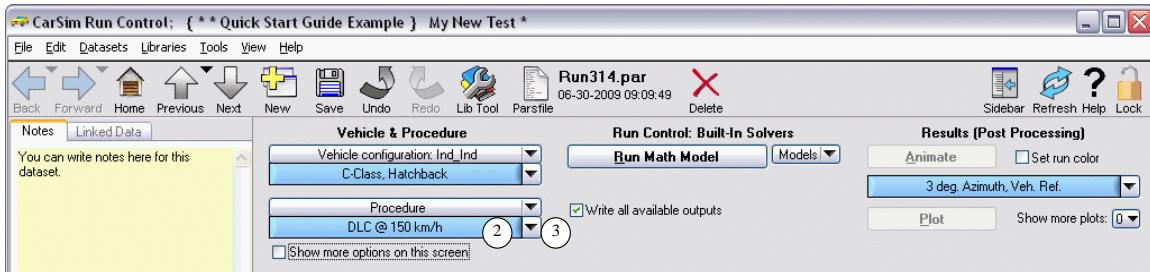
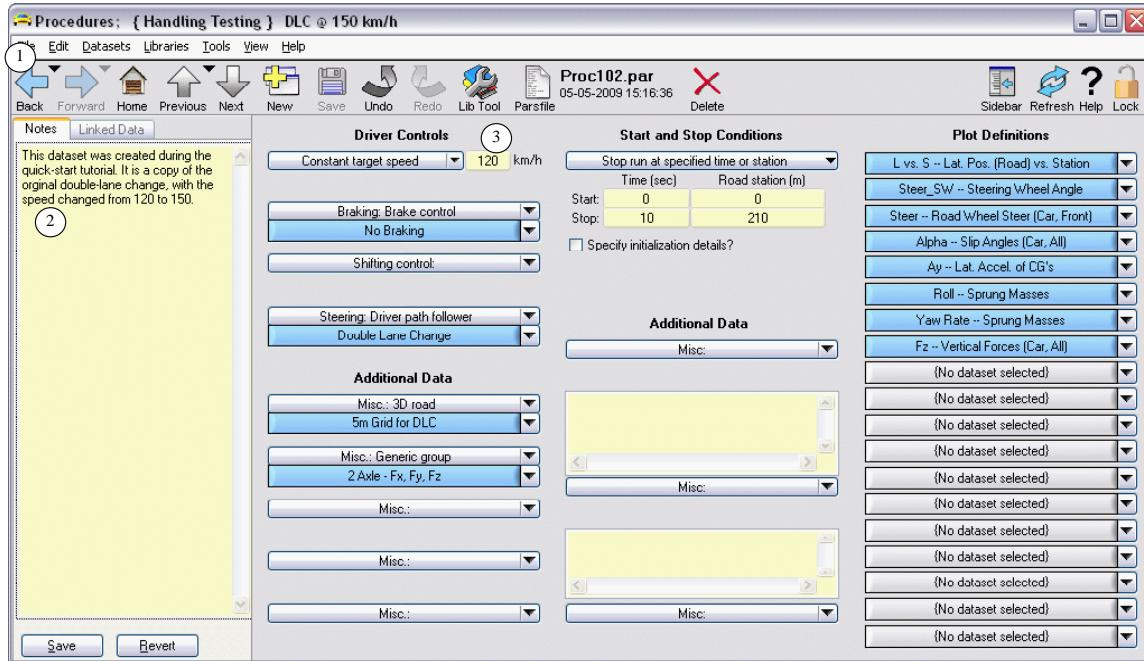

Figure 20. Run screen with link to newly created procedure dataset.
Figure 21. Procedure screen for newly created dataset.
Change the speed in the title from 120 to 150, and then click the OK button. The **CarSim Run Control** screen now shows the modified link ② (Figure 20). This action created an identical copy of the original linked dataset. Your next step is to edit the dataset to change the test speed.
- Click the blue button ② (Figure 20) to view the newly created dataset (Figure 21).
- The speed shown in the yellow field ③ is 120. Change it to 150 km/h.
6. The **Notes** yellow field (2) has text that states “You can write notes here.” Delete that text and write some documentation about your new dataset (Figure 21).
7. Right-click on the **Back** button (1) to confirm what it does, then click it to return to the previous library screen — the **CarSim Run Control** screen (Figure 20).